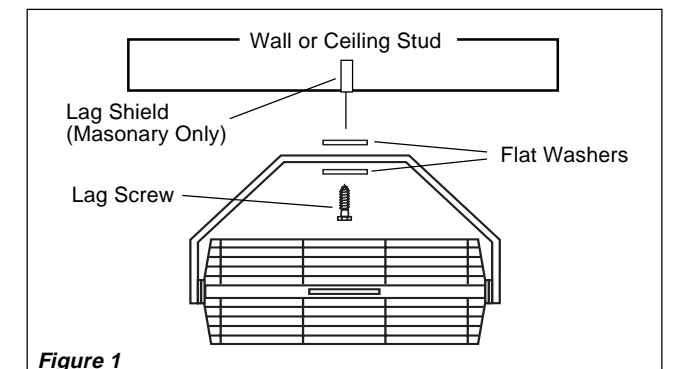

Figure 1
1. WOOD STRUCTURES: Locate the wall or ceiling stud nearest to the desired Fan location. Attach the Fan to the stud using a 3/8" diameter x 2" long Lag Screw (Not Supplied). **(Figure 1)**
3. MASONRY STRUCTURES: Attach Fan using a 3/8" Lag Screw, with a Lag Shield of appropriate length (Not Supplied). **(Figure 1)**